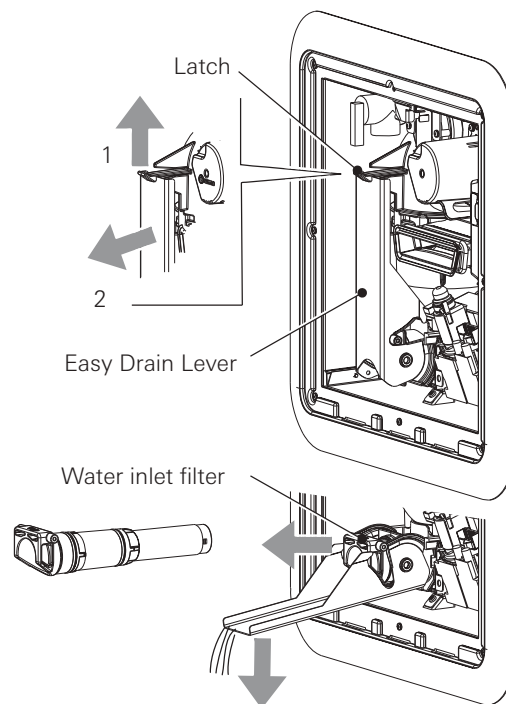

Fig. 4a
5. Remove the water inlet filter as shown in Fig. 4a and rinse it with clean water.